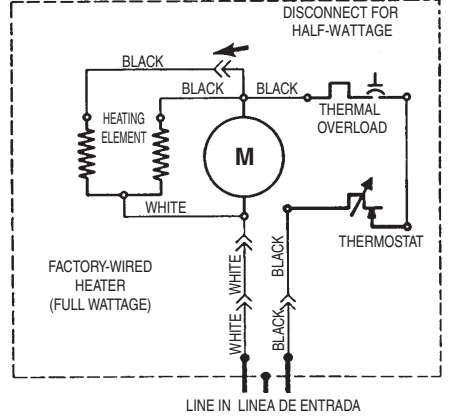

FIG. 4 - HALF-WATTAGE CONVERSION
1. Conversion to half-wattage. (FIG. 4)